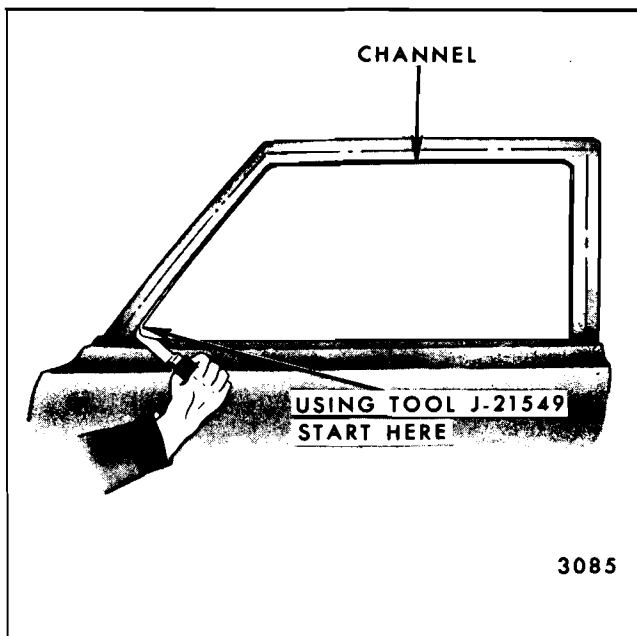

Fig. 6-102—Door Window Glass Run Channel Removal
3. From outside door, insert a sharp pointed right angle tool (reveal molding clip disengaging tool J-21549 or equivalent) between outer edge of glass run channel and door upper frame as shown in Figure 6-102. Slide the tool rearward until a clip is contacted, then engage point of tool under clip and carefully pry inboard to release clip tangs from door frame.